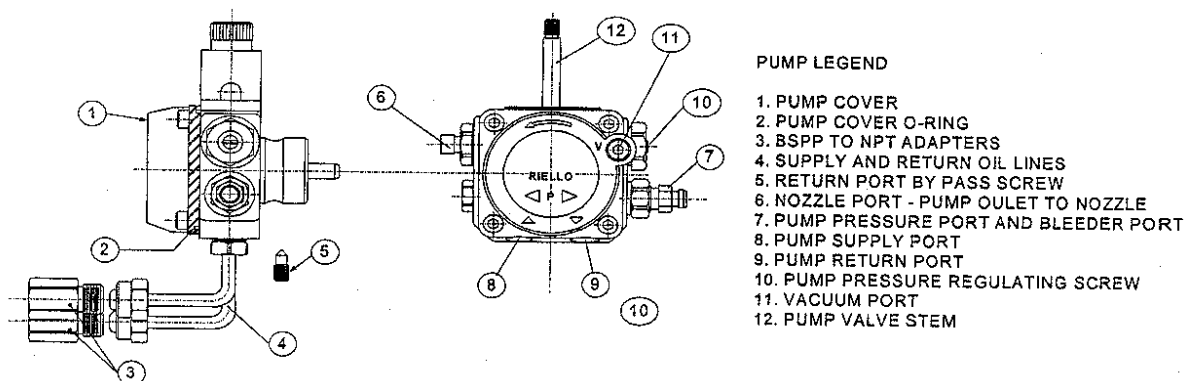

Figure 9: Riello Pump Connections and Port Identification
- g. Pump Connections and Port Identification, refer to Figure 9.